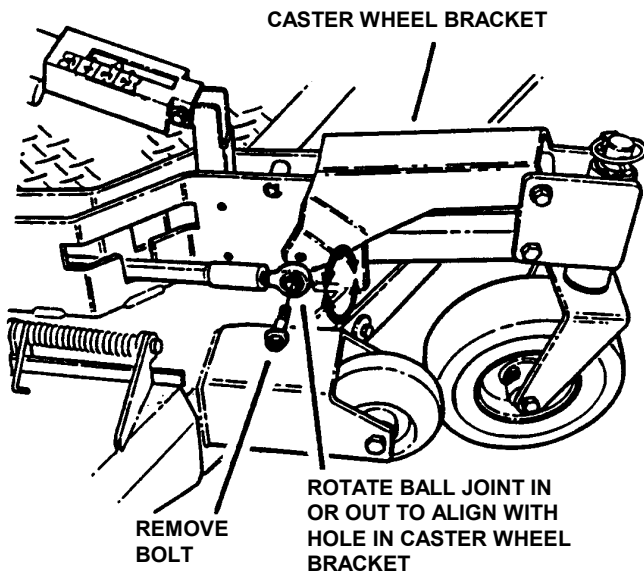

FIGURE 5.3
6. Remove both bolts (one from each side) from the front portion of the link weldment. See Figure 5.3. The front caster wheel will drop to the ground.
7. Turn ball joint in or out until ball joint anchor hole aligns with mounting hole. Reinstall bolt and tighten securely. Use same procedure on other caster wheel. See Figure 5.3.